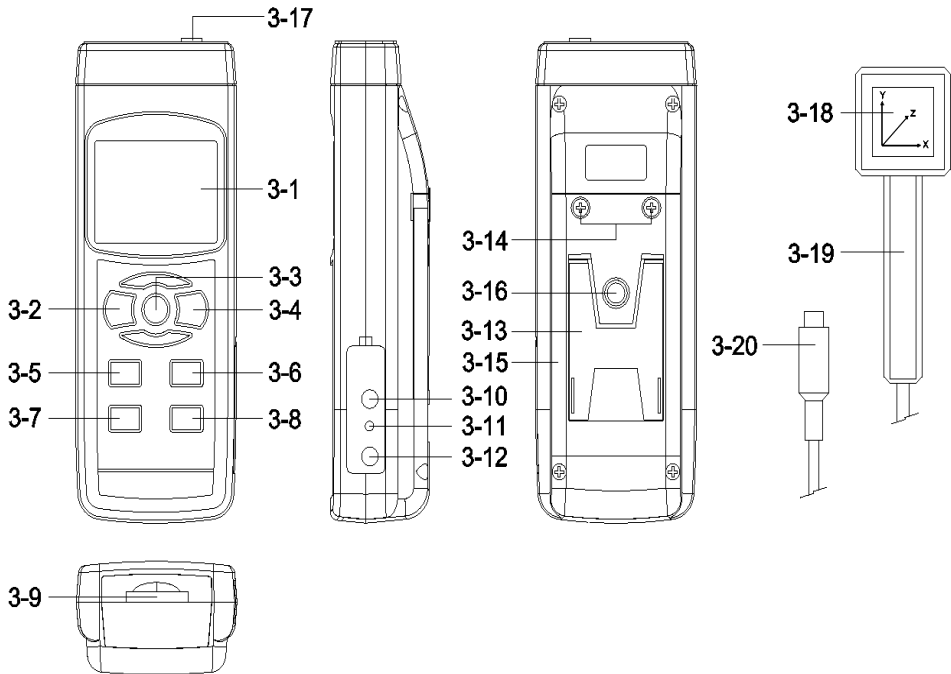

Fig. 1
(3-2, Fig. 1) > 1.5 seconds continuously.
** Pressing the " Power Button " (3-2, Fig. 1)
pressing and hold the " Function Button "(3-5, Fig. 1),
pressing the " UNIT Button "(3-5, Fig. 1),
pressing the " Range Button "(3-6, Fig. 1),
1. Probe plug "(3-20 Fig1) into the meter "(3-17 Fig1) probe input.
During the measurement, press the " Hold Button " (3-3, Fig. 1) once will hold the measured value & the " HOLD " symbol will be light, Press the " Hold Button " once again will release the data hold function , HOLD symbol will be quenched
- 1) The data record function records the maximum and minimum readings. Press the " REC Button " (3-4, Fig.1) once to start the Data Record function and there will be a " REC " symbol indicator " will be light.
- a) Press the " REC Button " (3-4, Fig. 1) once, the " REC and MAX Symbol indicator will be light , and the maximum value will appear on the display.
- b) Press the " REC Button " (3-4, Fig. 1) again, the " REC and MIN " Symbol indicator will be light , and the minimum value will appear on the display.
Prepare a " SD memory card " (1 G to 16 G, optional), insert the SD card into the " SD card socket " (3-9, Fig. 1). The front panel of the SD card should face against the down case.
Press the " LOG Button (3-8, Fig. 1) > 1.5 seconds continuously, the LCD will show the text of " DATA LOGGER " indicator and flashing per second, at the same time the measuring data along the time information will be saved into the memory circuit.
During execute the Datalogger function, if press the " LOG Button " (3-8, Fig. 1) once will pause the Datalogger function (stop to save the measuring data into the memory circuit temporarily). In the same time the " DATA LOGGER " symbol will stop flashing.
If press the " LOG Button " (3-8, Fig. 1) once again will execute the Datalogger again, the " LOGGER " symbol will flashing.
During execute the Datalogger function, press the " LOG Button (3-8, Fig. 1) > 1.5 seconds continuously again will finish the Datalogger function, the "DATA LOGGER " text will be disappeared and finish the Datalogger function.
Press the " LOG Button (3-8, Fig. 1)>1.5 second, the LCD will show the indicator " DATA LOGGER " and " Position no. " symbol then press the " LOG Button " (3-8, Fig. 1) once , the " DATA LOGGER " symbol will flashing once and Beeper will sound once at the same time the measuring data along the time information will be saved into the memory circuit .
During execute the Manual Datalogger, it can use the " ▲ Button " (3-5, Fig. 1) or " ▼ Button " (3-6, Fig. 1) to set the measuring position (1 to 99, for example room 1 to room 99) to identify the measurement location , the lower Display will show P x (x = 1 to 99).
During execute the Datalogger function, press the " LOG Button (3-8, Fig. 1) > 1.5 seconds continuously again will finish the Datalogger function.
During the normal measurement (not execute the Datalogger), If press " Time " (3-7, Fig. 1) once , the LCD display will present the time information of Year/Month/Date ,Hour/ Minute/Second and the Sampling time information in sequence.